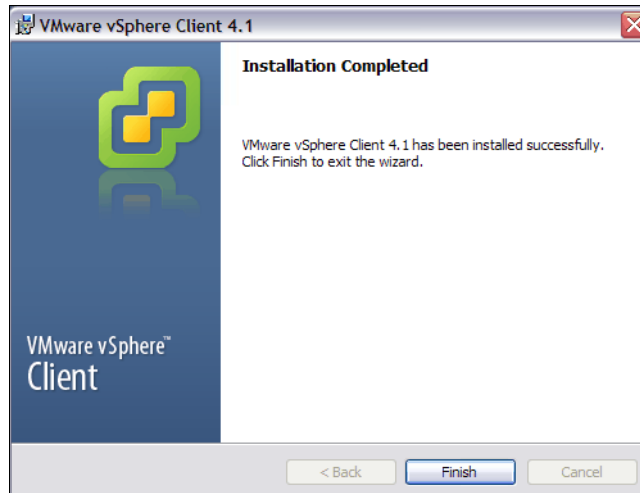

Figure 22-46 ESX Client Installation - Completed
10. After the installation is completed, click **Finish** as shown in Figure 22-46 on page 685.